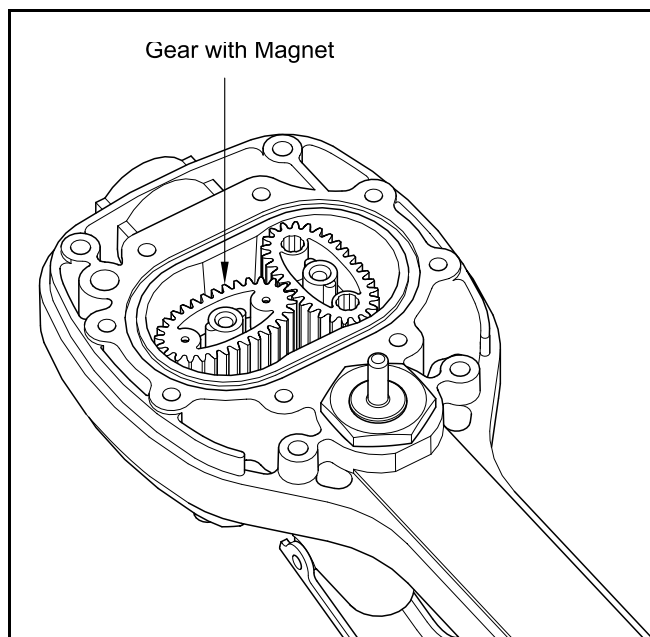

Figure 9 Metering Gears
10. Install Gear (36) with the magnets into the Housing.
- Make sure to locate the Gear properly in the Housing. See **Figure 9**.
11. Install additional Gear (35) into the Housing.